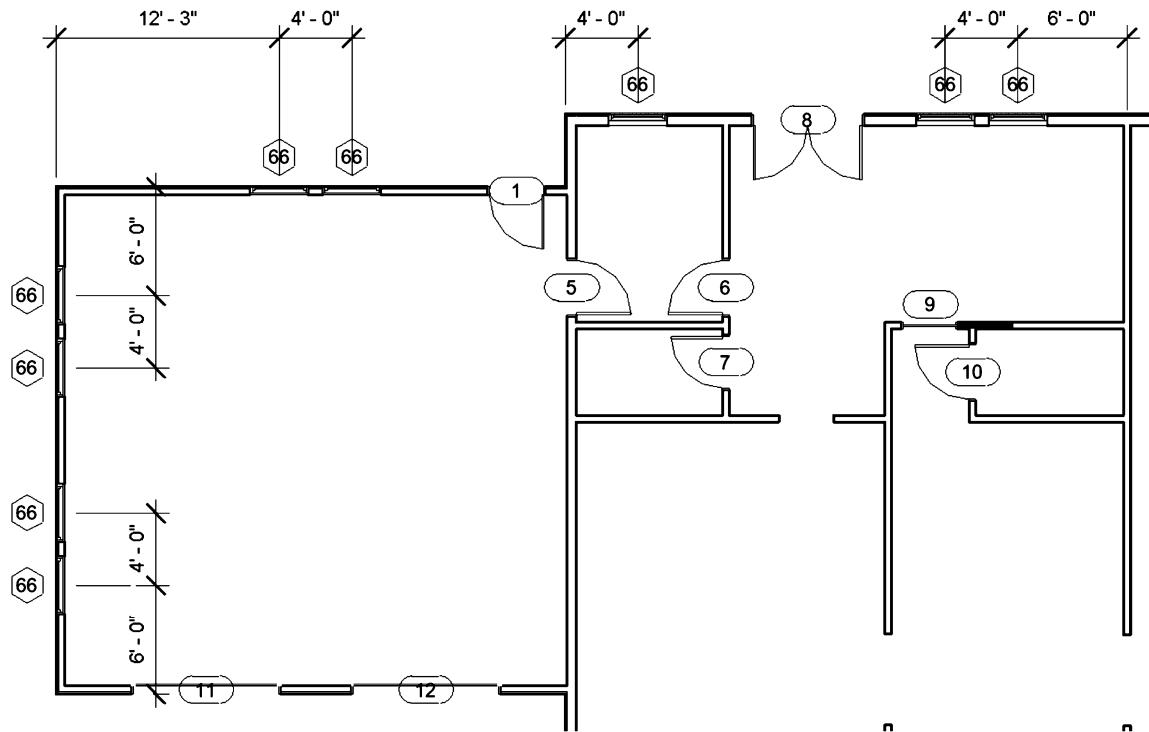

FIGURE 5-4.13 Nine more windows added to the first floor plan
18. Insert window **Window-Double-Hung: 38" x 46"** as shown in **Figure 5-4.13**; use *Instance Properties* to set the *Sill Height* to **2'-10"**; place 9 windows total.